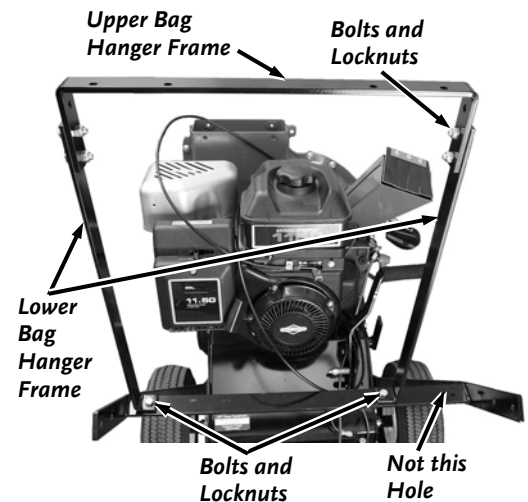

Figure 6
1. Position the two Lower Bag Hanger Frames onto the cross member of the Lower Handle and loosely install with two 5/16-18 x 1" Bolts and two 5/16-18 Nylon Locknuts using two 1/2" Wrenches (Figure 6).